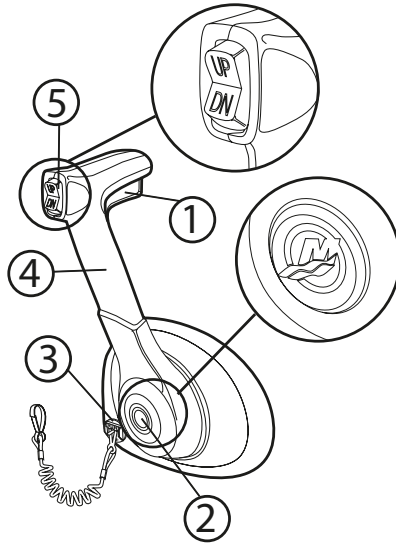

FIGURE 6-1 TYPICAL THROTTLE SHIFT CONTROL
The engine Owner's Manual included with your Owner's Packet has detailed information about the throttle/shift control installed on your boat. The control serves two purposes: (1) it regulates the engine speed and (2) it acts as a gear shift lever to control the rotation of the propeller. When the handle is in the center, the gearshift is in neutral. As you move the handle forward and backward, you should feel the handle drop into a detent when the handle moves into the NEUTRAL position. The engine will not start unless the control is in NEUTRAL. Figure 6-1 shows a typical control.